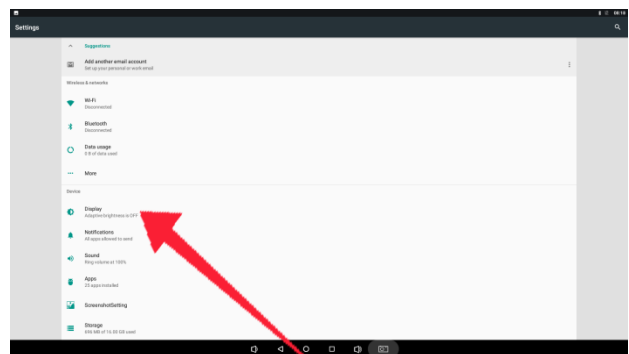

Fig. 2
2. Click the "Display"(Fig. 2);